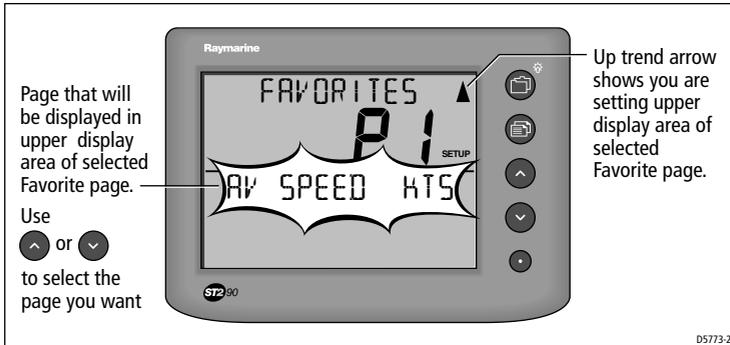

Figure 3-8: Setting Favorite page for upper display area
4. Press the  button to move to the next Favorite setup page. The up trend arrow is displayed to indicate you can now set which data will be in the upper display area of the first operational Favorite page (see *Figure 3-8*).